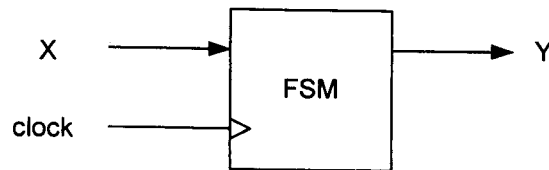
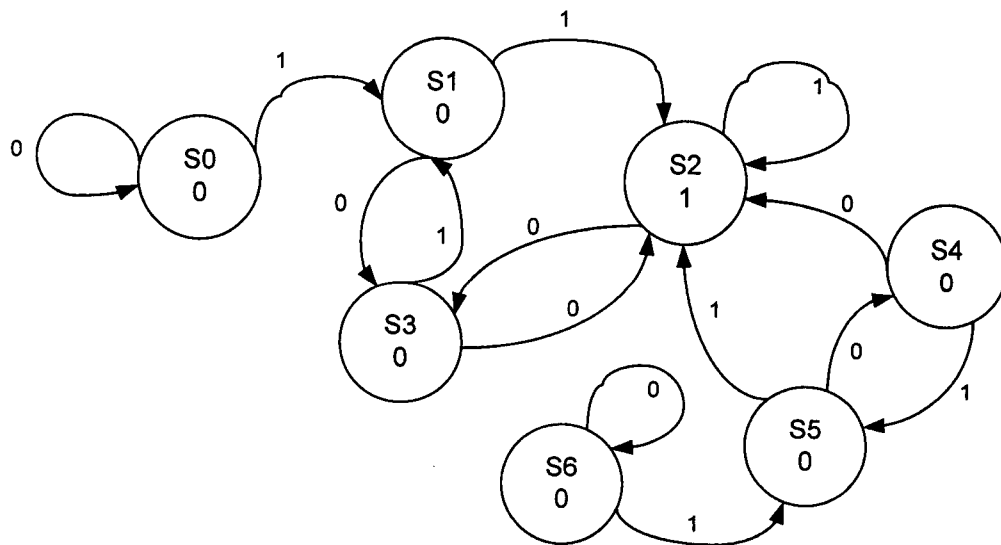

Figure 4.1
Figure 4.2
4. Figure 4.1 shows a finite state machine (FSM) that recognises some binary serial patterns applied to X and, when any of these serial pattern occurs, Y is driven high. Figure 4.2 shows the state diagram of the FSM.